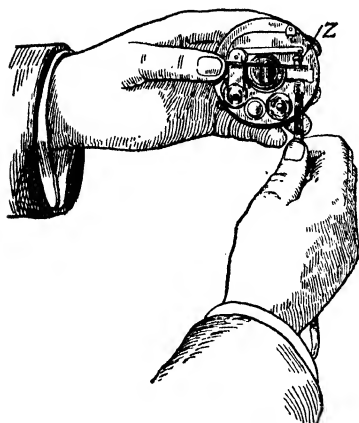

Fig. 143. Method of Adjusting Magneto Contact Points
i.e., a piece of paper must pass between them without getting jammed", Fig. 143.
A. The result of wear will usually be to increase the distance between the points, but the writer has experienced the opposite on an old car where the cam apparently wore down faster than the points and prevented their opening. This was probably due to improper hardening of the cam itself or to the fact that the roller was harder than the cam. Many of the later models do not employ a roller in the movable contact arm, the cam striking directly against a projection on the arm itself (see Eisemann interrupter, Fig. 143). An example of the roller type, is the K-W interrupter, Fig. 69.